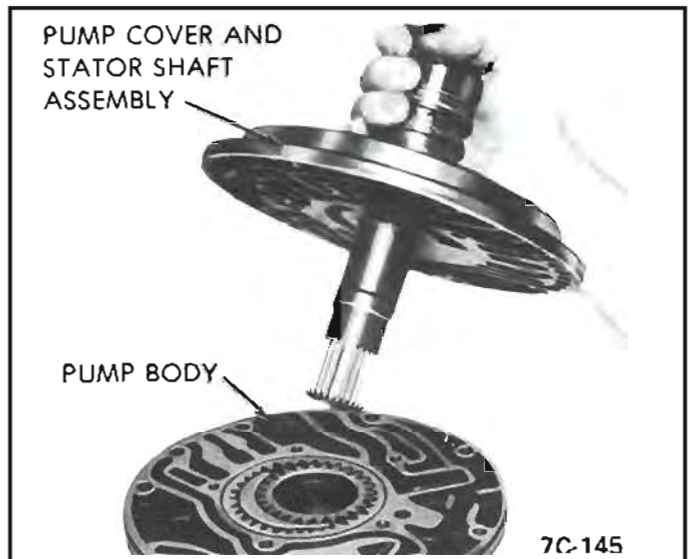

Figure 48 Pump Cover Removal
6. Remove pump cover and stator shaft assembly from pump body. *See Figure 48.*
3. Assemble pump cover to pump body. *See Figure 48.*